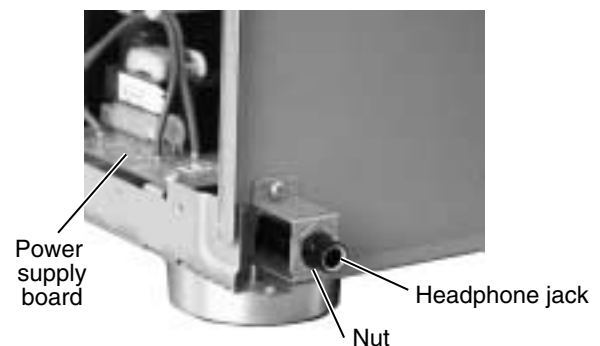

Fig.14
■ Removing the power supply board (See Fig.14 and 15)